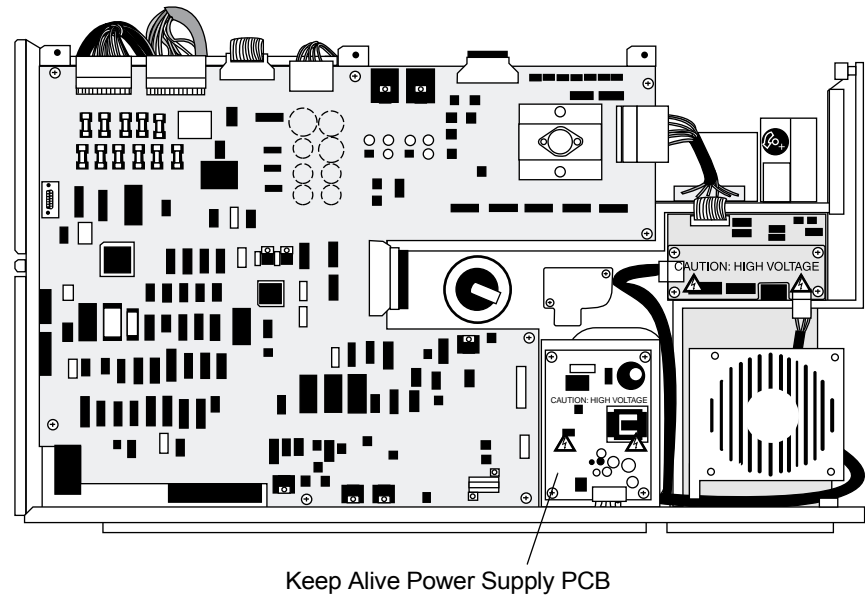

Figure 7-3. Left Side of GCQ Plus with Covers Removed, Showing the Keep Alive Power Supply PCB
4. Remove the cover to the keep alive power supply. Figure 7-3 shows the location of the keep alive power supply.